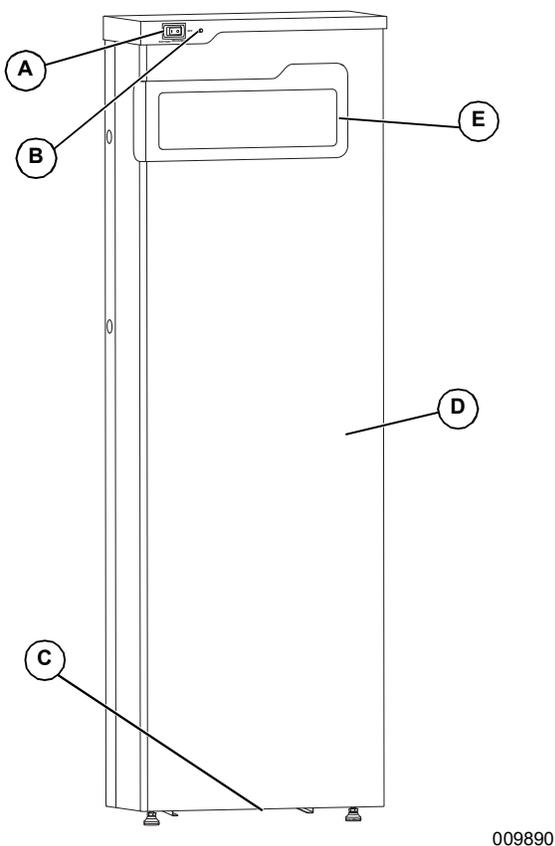

Figure 2-6. Component Locations
See **Figure 2-6**. Battery Disconnect switch (A) disconnects the battery string from the battery monitoring system (BMS) electronics.
See **Figure 2-6**. The color and strobing interval of LED (B) communicates battery status.